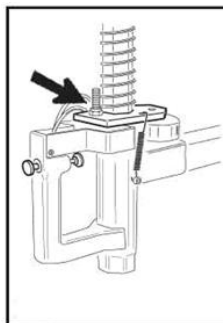

Fig. 5-4
- If the mounting head is not locked or cannot be held 2 mm above the rim, adjust the operator arm locking plate (Fig. 5-4).